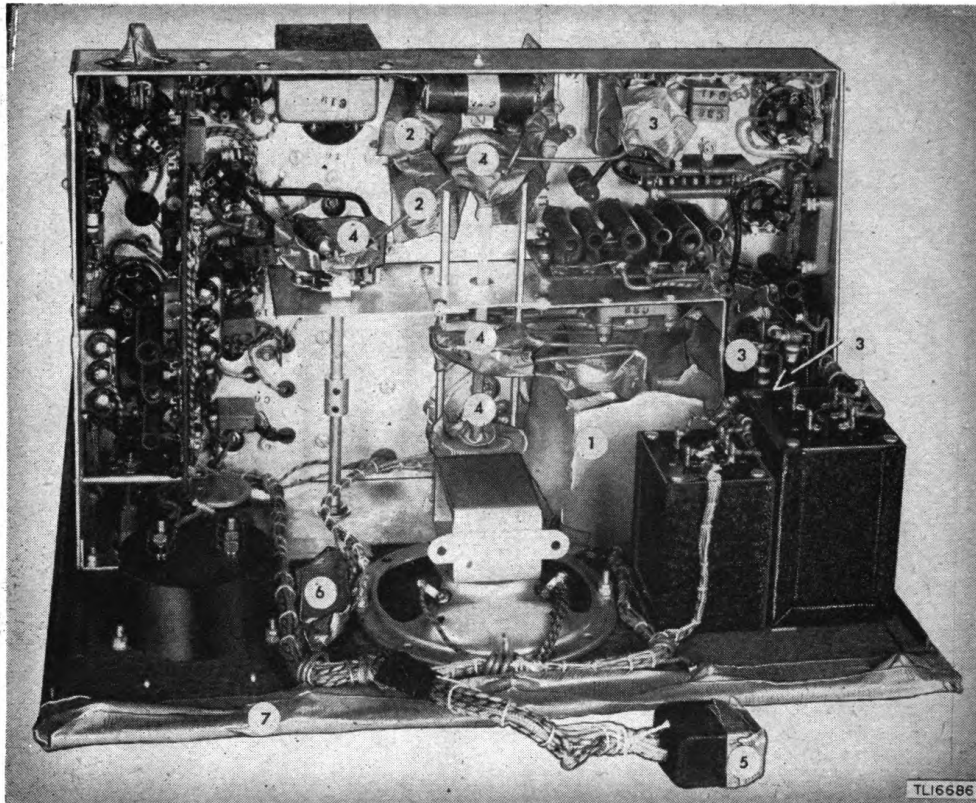

Figure 11. Radio Receiver and Transmitter BC-441-(*), masked chassis—bottom view.
(5) Rubber grommets on transformer cans. Varnish is injurious to rubber.
(6) Trimmer screws on transformer cans. Tape must completely seal holes.
(7) Crystal sockets.
(8) Interlock switch.
(9) Antenna change-over relay with paper and tape.
(10) The two knurled nuts on the top of the front panel.
(11) Porcelain antenna insulator.
e. MASKING BOTTOM OF RECEIVER AND TRANSMITTER CHASSIS (FIG 11). Mask the following components:
- (1) Power-amplifier plate tuning capacitors. Mold paper around